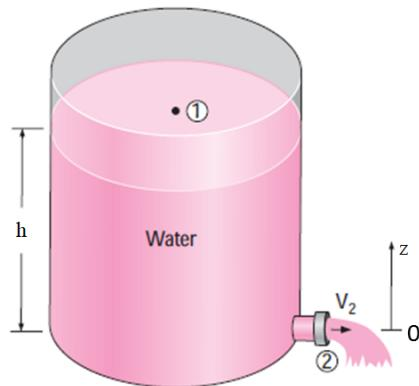

Figure 2: Schematic for Problem #1.
In Figure 2 provided below, the fountains at the Bellagio can shoot water as high as 140 [m] (distance between (1) and (2)). The fountains uses pumps that pressurize the water to 250 [psi] (1,723.7 [kPa]) which is then sent through a nozzle with an exit diameter of 6.35 [cm]. Determine the exit velocity of the water from the nozzle at (1). Hint: be very discerning about the location of where you apply the pressure.